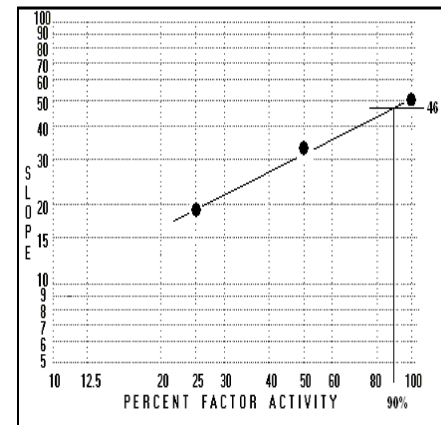

FIGURE 3
B. Preparation of Standard Curve² (See Figure 3):